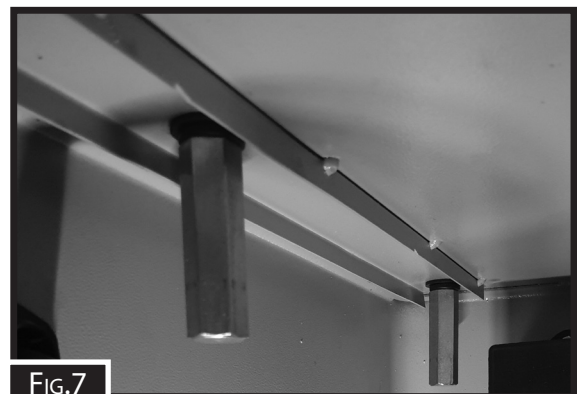

FIG.7
10. Unbolt three main bolts holding jointer to base. (Two are in the main base (Fig.7) enclosure, one is in the dust chute).